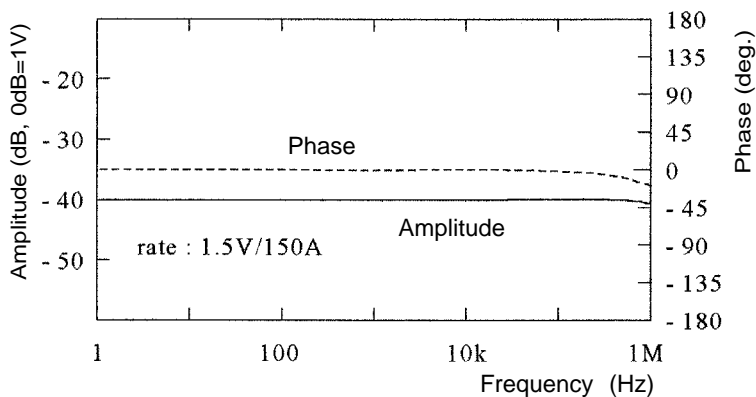

Figure 18 9276 Frequency Band (example of characteristics)
- ◆ Frequency band DC to 1 MHz (-3 dB) (see Figure 18, example of characteristics)